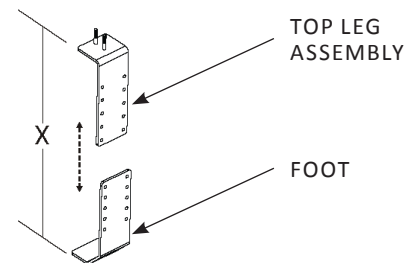

Figure 4-27
4. Obtain the foot and top leg assembly from the BA25 kit. Adjust the brackets as shown. Slide up or down until the measured well height is achieved. Holes are arranged for 1/4" increments. *See Figure 4-27.*